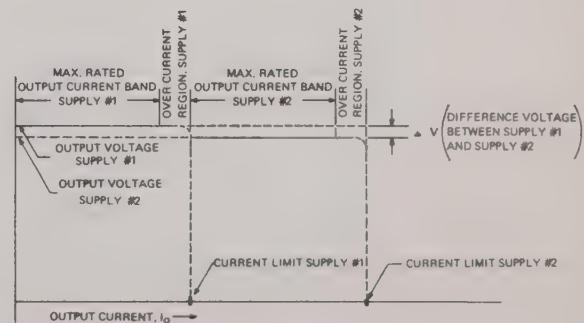

FIG. 3-12 PARALLEL OPERATION, PCX–MAT POWER SUPPLIES
- 3-44 Two identical PCX–MAT power supplies may be operated in parallel for increased load-current output. Each supply is set to the desired output voltage with its respective Current Limiting Adjustment set to the maximum rated output current. After paralleling the two power supplies, one of the (supply #1) will inherently be at a slightly higher output voltage than the other (supply #2). Consequently, supply #1 will deliver all the load current up to the setting of its Current Limiting Adjustment. As the load is increased beyond this limit of supply #1, supply #2 takes over and delivers the additional current. The Current Limiting Adjustment of supply #1 can now be decreased, so that approximately equal current sharing is obtained. FIG. 3-12 shows in form of a diagram, how the two supplies operate in parallel, with their respective Current Limit Adjustments set to the maximum rated output current. It will be obvious from the diagram, that the areas of load regulation are within the output current bands of the individual supplies only. Therefore, load regulation cannot be measured from zero to twice the load current for example, but only within the individual load current bands. Error sensing as described in Par. 3-5, (from either supply) may be used if precise regulation at the load is required.